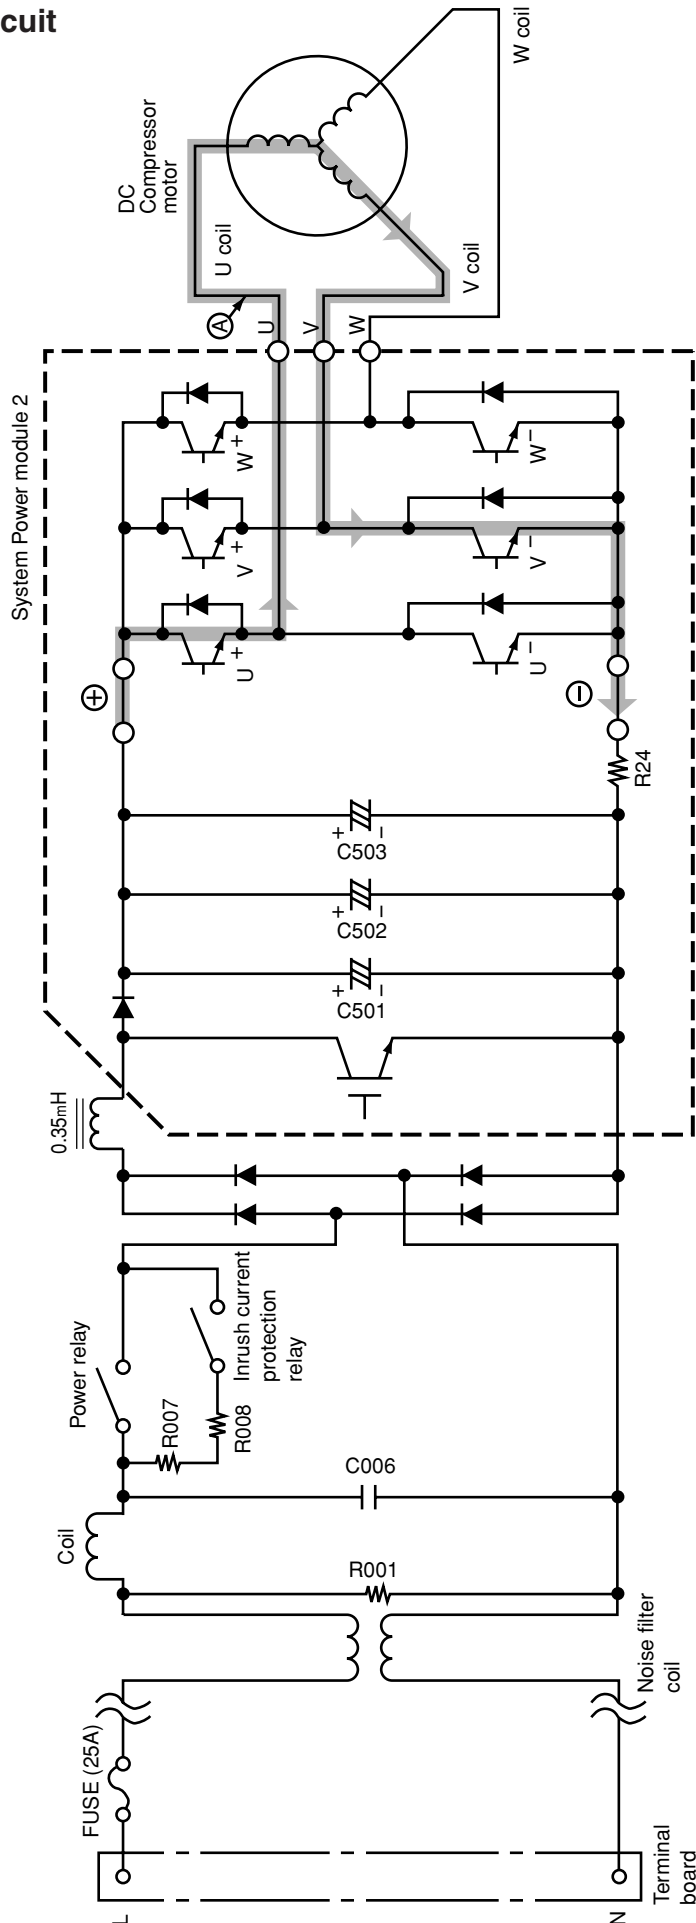
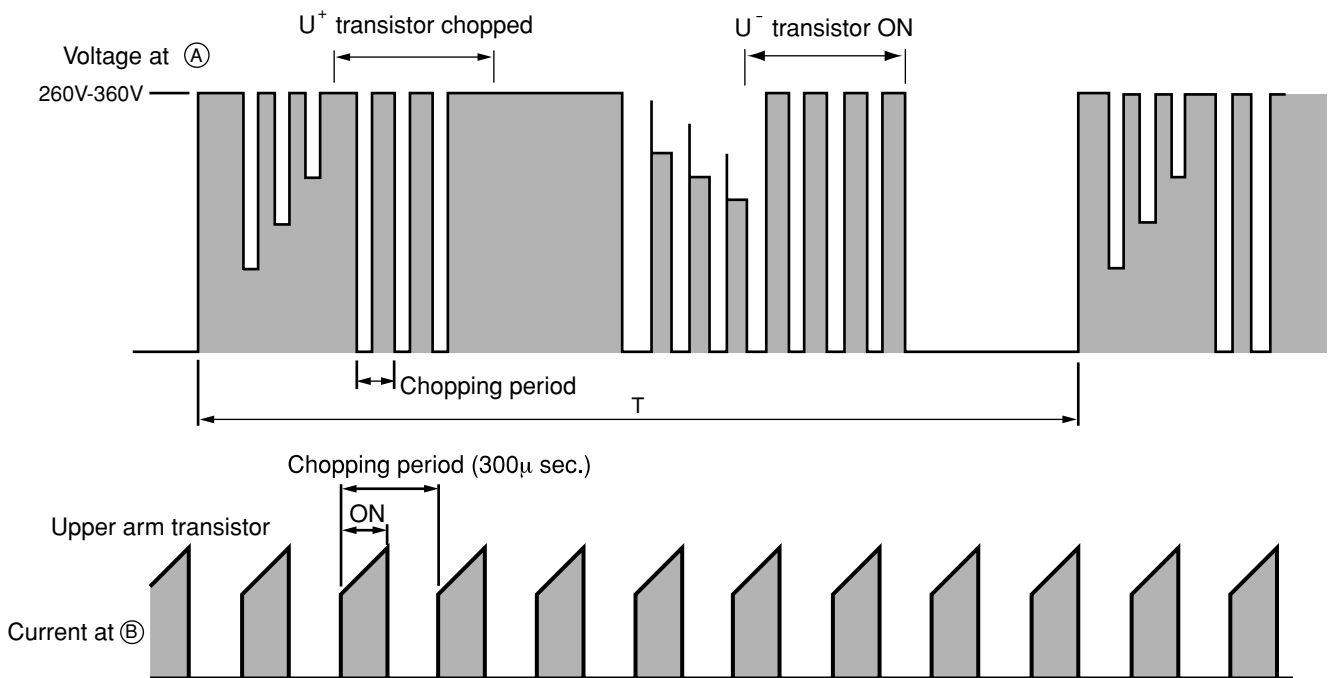

Fig. 3-1 Power module circuit (U+ is ON, V- is ON)
Fig. 3-3 Voltage waveform at each point
- Fig. 3-1 shows the system power module and its peripheral circuit. The three transistors on the positive ⊕ side are called the upper arm, and the three transistors on the negative ⊖ side are called the lower arm.
- Fig. 3-3 shows voltage waveform at each point shown in Figs. 3-1 and 3-4. First half of upper arm is chopper, second half is ON, and first half of lower arm is chopper, second half is ON.
- When power is supplied U+ → U-, because of that U+ is chopped, current flows as shown below; (B)
- (1) When U+ transistor is ON: U+ transistor → U coil → V coil → V- transistor → DC current detection resistor → Point (B) (Fig. 3-1)
- Since current flows at point (B) only when U+ transistor is ON, the current waveform at point (B) becomes intermittent waveform as shown in Fig. 3-3. Since current at point (B) is approximately proportional to the input current of the air conditioner, input current is controlled by using DC current (Id) detection resistor.